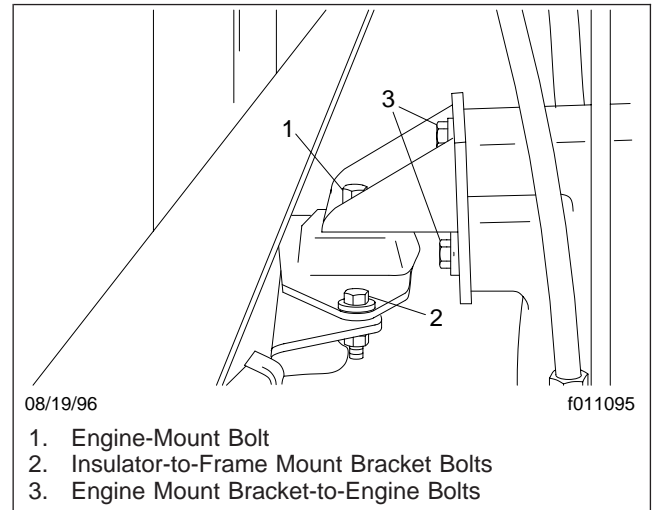

Fig. 1, Rear Engine Mount (ISB rear-engine chassis built before 2002)
1. Check the rear engine-support fasteners. See Fig. 1. Tighten the rear engine-mount bolt 157 lbf-ft (213 N·m).